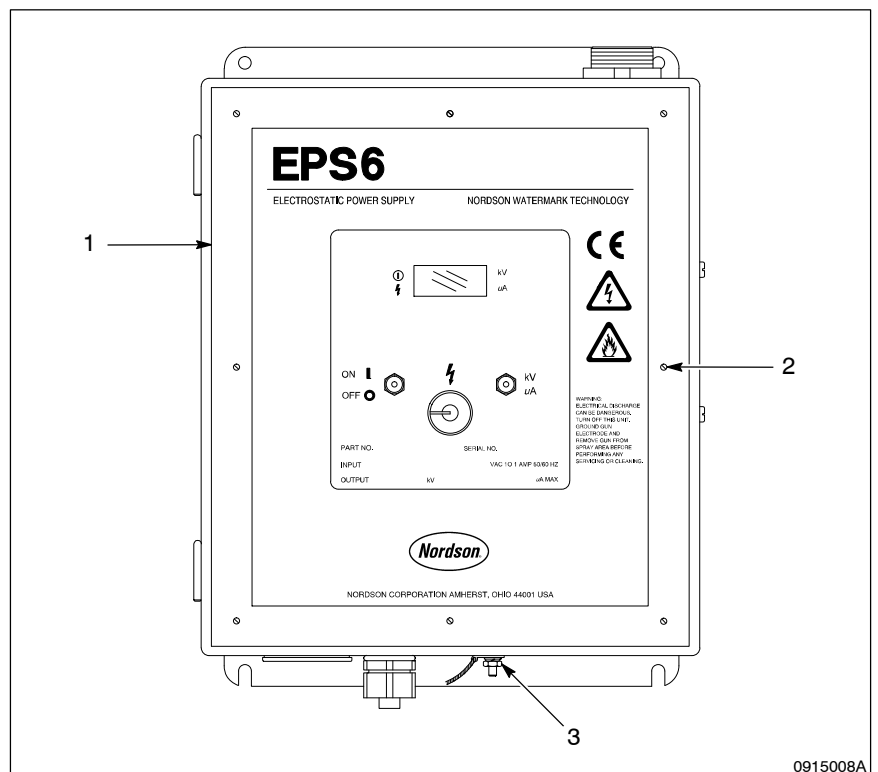

Fig. 8 Front Panel Door
5. See Figure 8. Disconnect the ground cable at the ground stud (3).
1. See Figure 8. Remove the eight retaining screws (2) from the front panel (1), and then open the panel door.
2. See Figure 8. Connect the ground cable at the ground stud (3).
8. See Figure 8. Close the front panel door and secure the front panel (1) with the eight retaining screws (2).